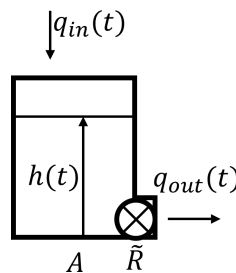

Fig. 5: Tank system
**Question 2.** Consider the system  $G_T : q_{in} \mapsto h$  shown in Fig. 5. Its input is the volumetric flow  $q_{in}$  to a